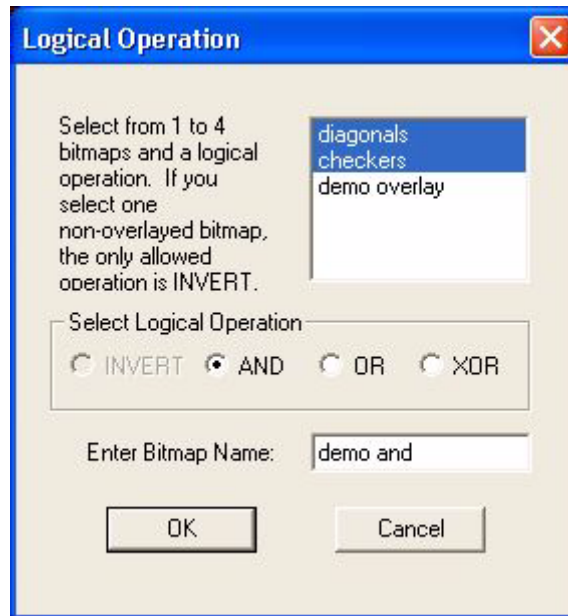

Figure 8-72. Logical Operation Dialog Box AND Operation
- 2 For this example, we will use the AND operation (similar to Figure 8-72):